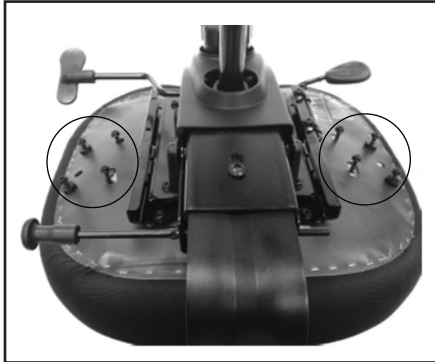

Figure 1
1. Chair will be shipped without arms installed. Arms will be in separate package, inside the chair box. Bolts for installation will be pre-installed on chair bottom (Figure 1).
2. Remove chair and arms from their packaging, then carefully turn chair upside down on a soft protective surface (Figure 1).